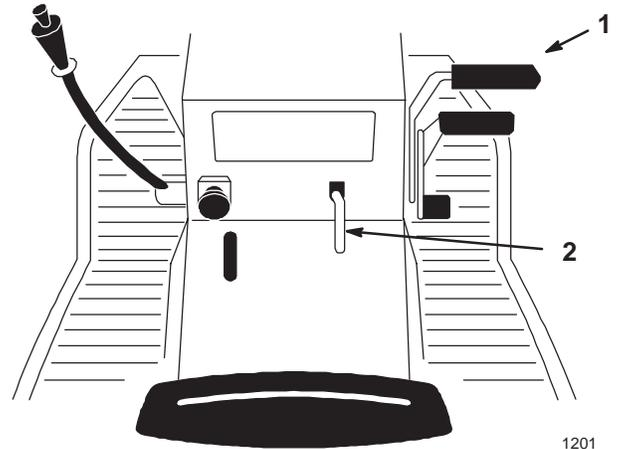

Figure 5
1. Push the brake pedal (Fig. 5) down and hold it in the depressed position.
2. Lift the parking brake lever (Fig. 5) up and gradually take your foot off the brake pedal. The brake pedal should stay in the depressed (locked) position.
1. Push down on the brake pedal (Fig. 5). The parking brake lever should release.